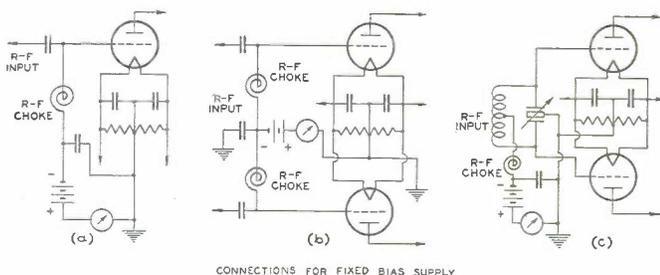

Fig. 1
Fig. 1 illustrates the use of fixed bias in several types of r-f amplifier circuits. The voltage source may be a battery, or a power pack designed to have good regulation. An r-f choke and by-pass condenser serve to exclude the r-f grid voltage from the bias-voltage supply. Where a tuned grid circuit is employed, the r-f choke is often not essential and may sometimes even be detrimental to the operation of the circuit. An r-f choke of the wrong value in the grid circuit may cause trouble from parasitic oscillations, especially where a similar r-f choke is used in the plate circuit. A bias voltage from a fixed source serves to protect the tube against accidental removal of the r-f grid excitation, provided the bias is large enough to reduce the d-c plate current to cutoff, or to a low value.
The connections for a grid-leak-biased stage are the same as those shown in the circuits of Fig. 1, except that a suitable resistor is substituted for the bias battery in each case. The value of the grid leak is determined by Ohm's law, $R = E/I$, where R is in ohms, E is the negative grid bias (in volts) recommended for the particular class of service contemplated, and I is the value of d-c grid current (in amperes) shown under "typical operation" in the tabulated data. For example, the recommended grid bias for an RCA-812 at 1500 plate volts in class C telegraph service is -175 volts; the d-c grid current is 25 ma., or 0.025 ampere. The correct grid leak will have a resistance $R = 175/0.025$, or 7000 ohms. The power (P) dissipated by this resistor is equal to EI , or $P = (175)(0.025) = 4.38$ watts. A 5-watt resistor would be operated near its maximum rating and might become quite hot. A 10-watt resistor would, therefore, be a logical choice. If two tubes are used in parallel or in push-pull, the d-c grid current of both tubes usually flows through a common grid leak. In this case, the resistance of the grid leak will be one-half that for a single tube.